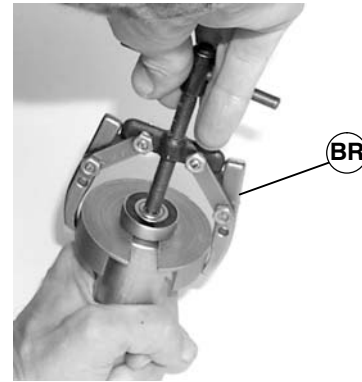

Figure 36
- Using a puller (BR of Figure 36), remove and discard bearing.